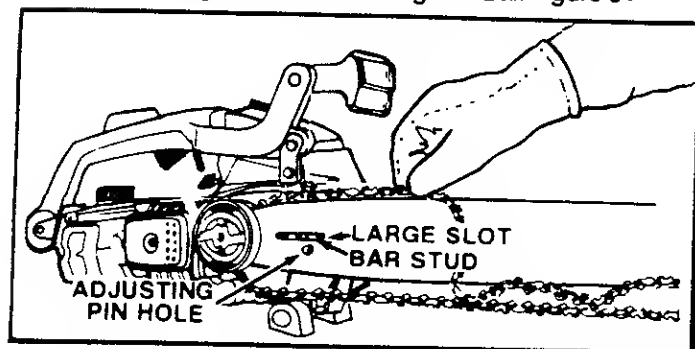

Figure 9
6. Start at the top of the guide bar and fit the chain drive links into groove around the guide bar. Figure 9.